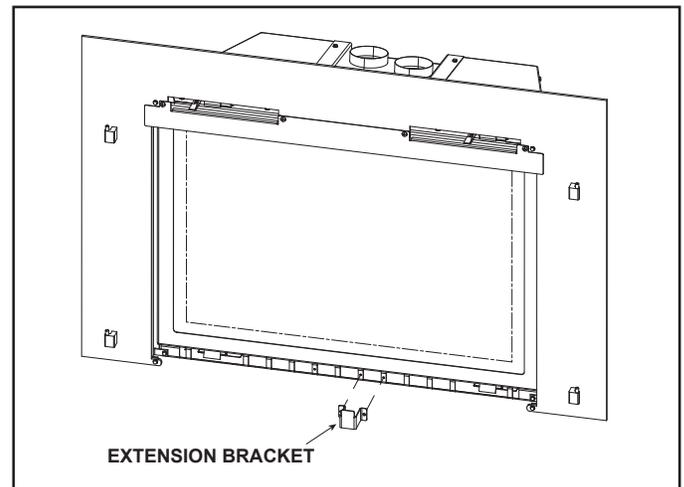

Figure 8
1. An extension bracket will need to be installed on the appliance for proper unit operation. See Figure 8.
1. Full width fronts installed in the operable condition pivot open on the left hinges to access the firebox. If the child safety mechanism is engaged it will need to be temporarily removed with a Phillips screwdriver. See Figure 8.
5. If the child safety lock assembly is removed, store it in the extension bracket for future use. See Figure 8.